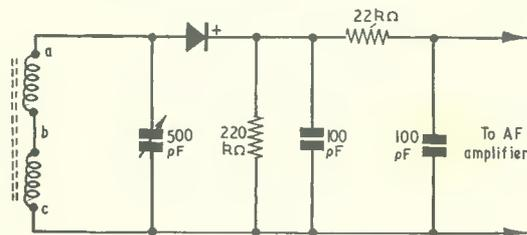

Fig. 3. A temporary crystal receiver set-up to find the required number of turns between points "b" and "a". Any germanium diode may be employed
- Disconnect the coil from the oscillator and wind on a second coil (140 turns) at the other end of the slab. Connect both windings in series across a 500pF tuning capacitor, and build into a crystal set arrangement, preferably using an a.f. amplifier. See Fig. 3.